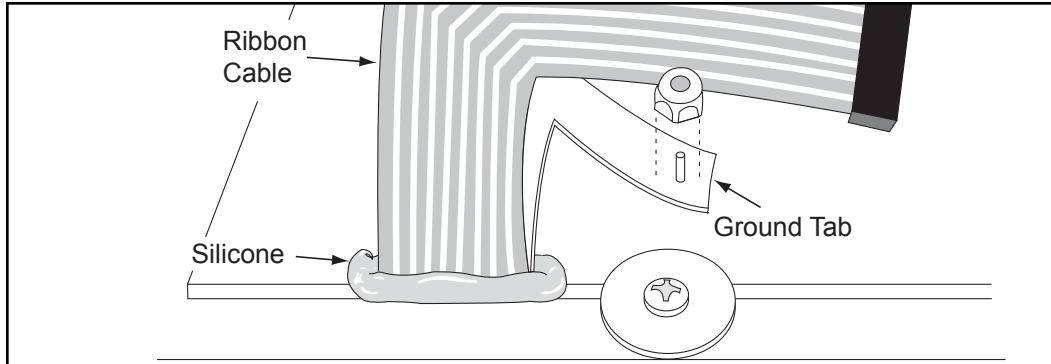

Figure 20
- B. Use a 5/16" socket wrench to remove the ground tab nut from the aluminum plate. See Figure 20.
- A. Gently bend down the ribbon and ground tab. Run a bead of silicone that fills the void surrounding the ribbon and ground tab. Be sure the silicone is placed all the way around the ribbon and tab. See Figure 20.